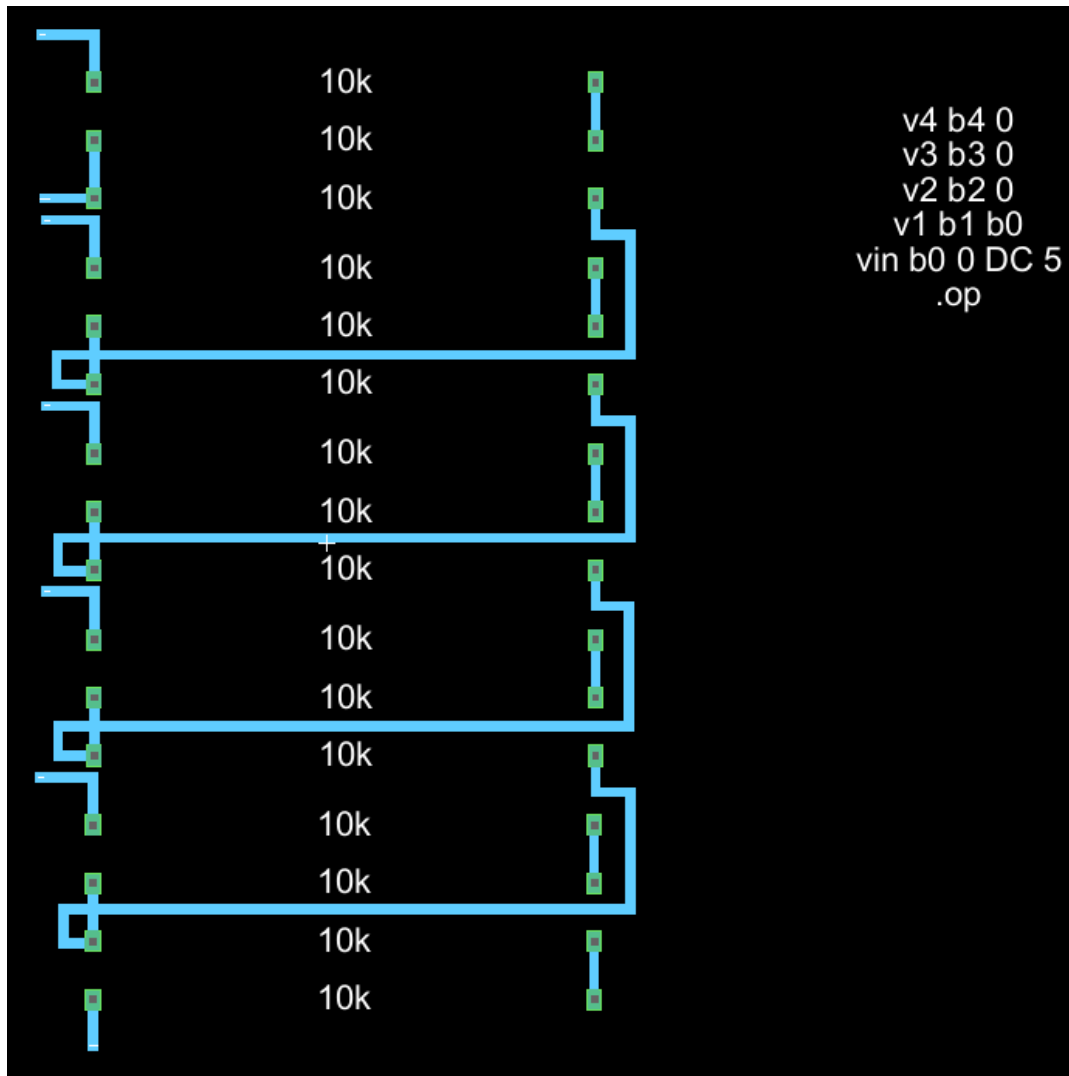

Figure 2.4: Layout of DAC
- Figure 2.4 is the layout of the DAC in its serpentine pattern. Figure 2.5 is the operating point results of the layout.